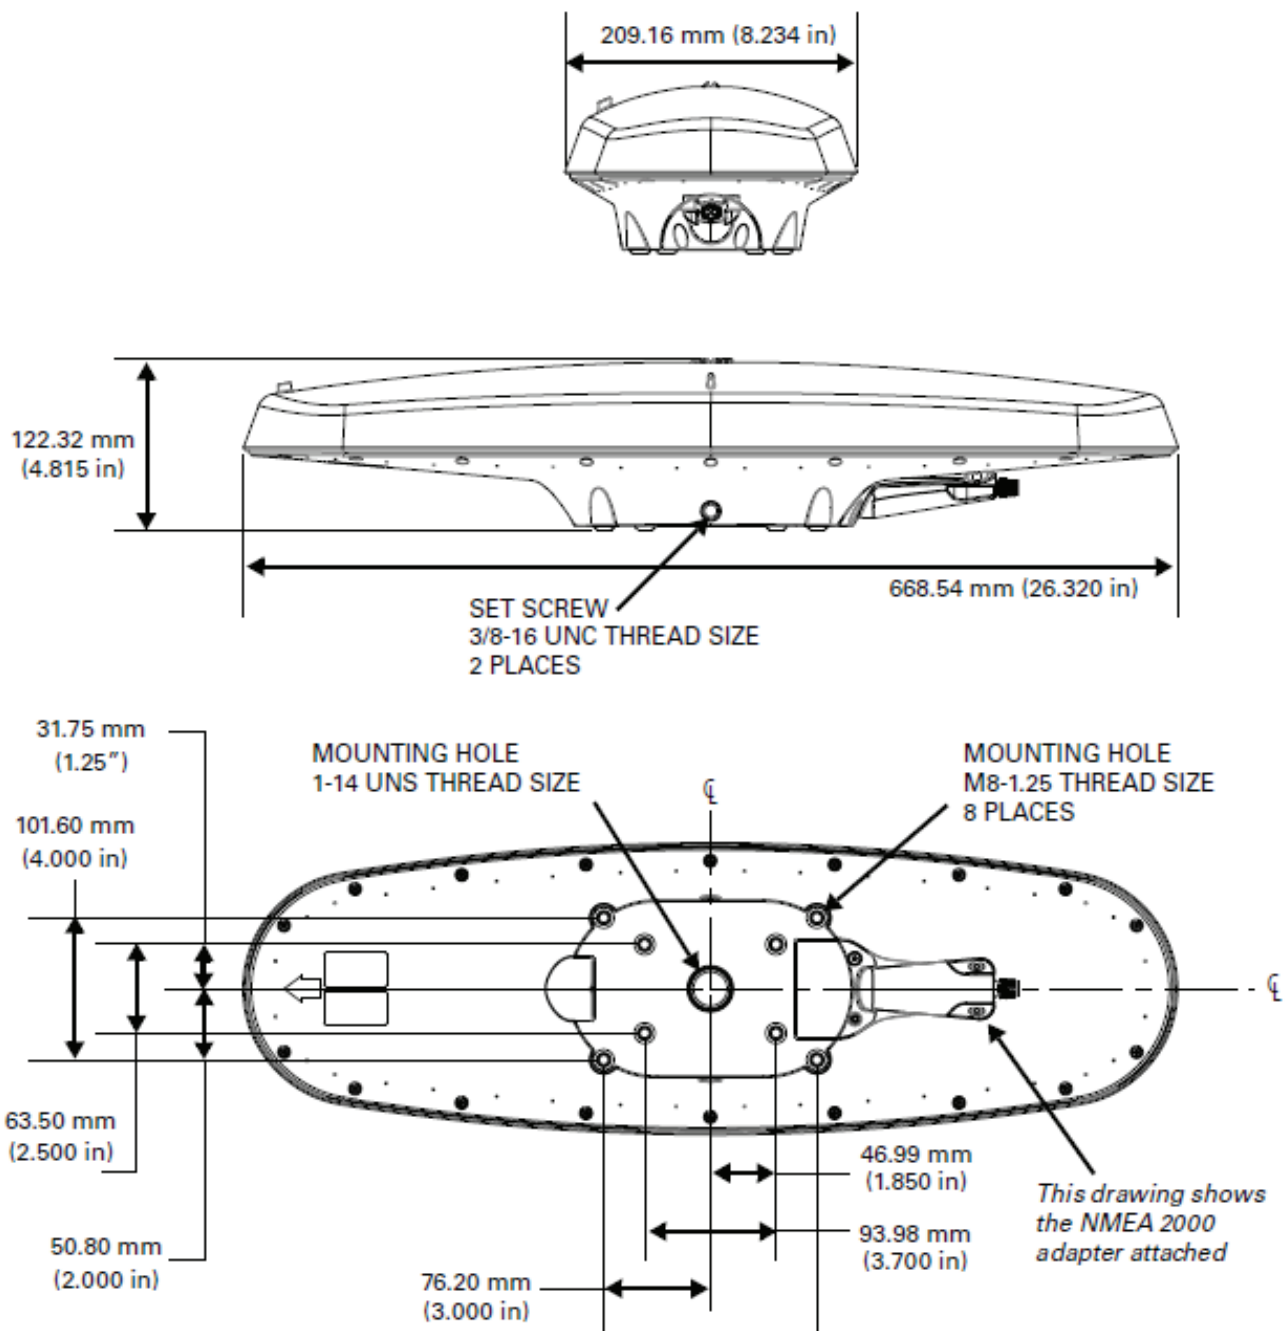

Figure 2-6: HS80/HS80A/MX575C/MX575D Smart GPS compass dimensions
- Flush mount - The bottom of the Smart GPS compass contains eight M8-1.25 holes for flush mounting the unit to a flat surface (see Figure 2-6). The eight holes comprise two sets of four holes. The inner four holes are in the same location as the HS70, allowing you to use the Smart GPS compass as a drop-in replacement. The outer four holes provide a wider mounting option.
- Pole mount - The bottom of the Smart GPS compass contains a mounting hole (1" thread, 0.9" depth) for easy pole mounting. Hand tighten until snug (do not over tighten). The set screws on the long sides of the base (see middle drawing in Figure 2-6) allow you to secure the Smart GPS compass in place (3/16" Allen wrench not included).
Figure 2-6 illustrates the physical dimensions of the Smart GPS compass.
3. Use the set screws on the long sides of the base (see Figure 2-6 on page 10) to secure the Smart GPS compass in place (3/16" Allen wrench not included).